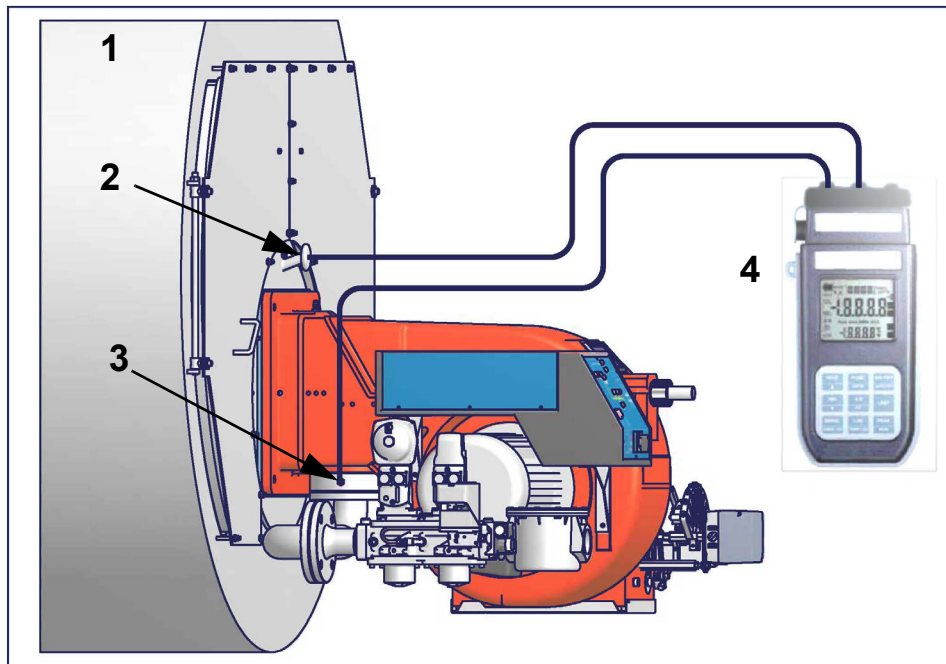

Fig. 2
The curves referred to the gas pressure in the combustion head, depending on the gas flow rate, are referred to the burner properly adjusted (percentage of residual  $O_2$  in the flues as shown in the "Recommended combustion values" table and CO in the standard limits). During this stage, the combustion head, the gas butterfly valve and the actuator are at the maximum opening. Refer to Fig. 2, showing the correct way to measure the gas pressure, considering the values of pressure in combustion chamber, surveyed by means of the pressure gauge or taken from the boiler's Technical specifications.
- Cast-iron boilers, three pass flue boilers (with the first pass in the rear part): the blast tube must protrude no more than **Dist** = 100 mm into the combustion chamber. (Fig. 2)